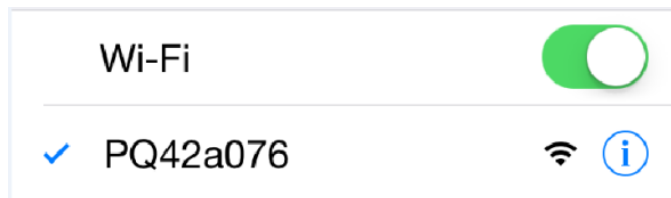

Fig. 4-1 WIFI hotspot of Sinexcel AHF
(1) Close disconnecting switch between power grid and active power filter to electrify the machine.
(2) Turn on WIFI of mobile phone, tablet and PC and add the hotspot. The hotspot name is “PQ+6 random letters” (e.g.: PQ42a076), as shown in Fig. 4-1. The initial password of the hotspot is 08080808.